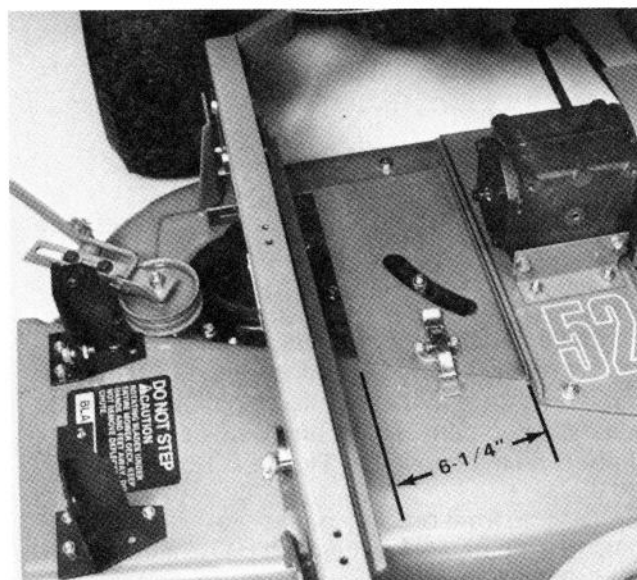

Figure 10
1. Measure 6-1/4" from bend in belt cover. Mark dimension and cut off excess material (Fig. 10).